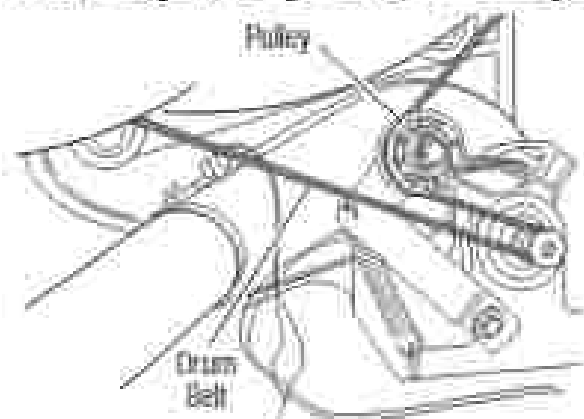

Figure 1 - Slowly remove drum belt.
7. Check the drive motor and belt switch (gas dryer only). Slowly remove the drum belt from the spring-loaded belt switch pulley, gently leading the pulley down. See Figure 1.